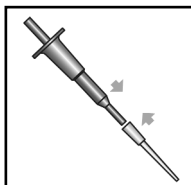

Figure 1
1. Place a yellow pipette tip firmly onto the end of the MiniPet®⁴ (fig. 1).